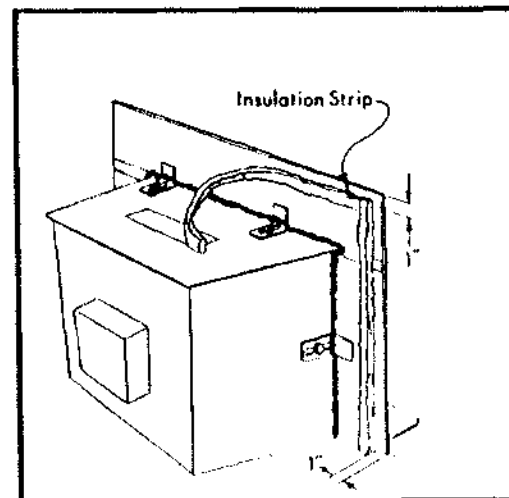

FIGURE 10 ATTACHING INSULATING STRIPS
2. (See Figure 10) Attach 1 1/2" x 2" strip insulation around the back edge of the trim panels. Set the strip back 1" from the edge.
2. Place a flashlight up through the damper and onto the top of the stove. Visually check all the way around the trim panels for evidence of light seepage. Any seepage should be blocked with the use of additional fiberglass and RTV silicone until a tight seal is achieved. (See Figure 10)